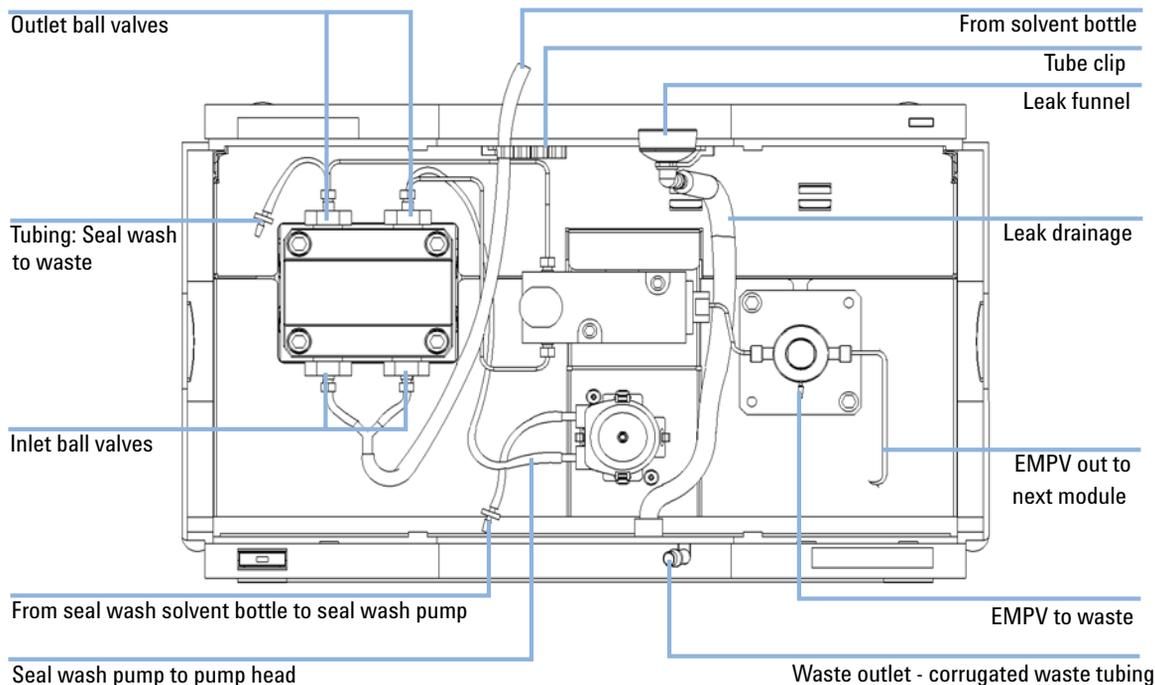

Figure 11 Flow connections to the preparative pump
- 8 Install the seal wash tubings, as shown in Figure 11 on page 44. You need a tubing from your seal wash solvent bottle to the seal wash pump, one from there to the pump head and one from the pump head to waste.